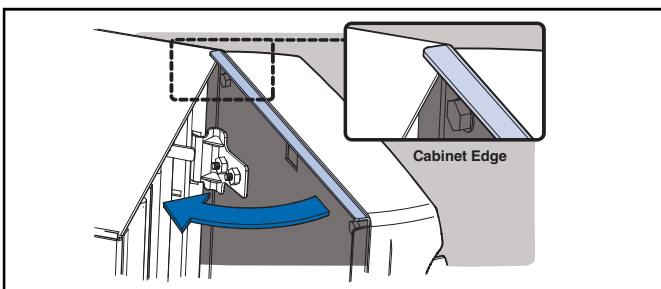

Figure 14 Rotating Door Closed
Step 3: Rotate door to closed position. Ensure ends of door overlap the cabinet (see detail). See Figure 14.